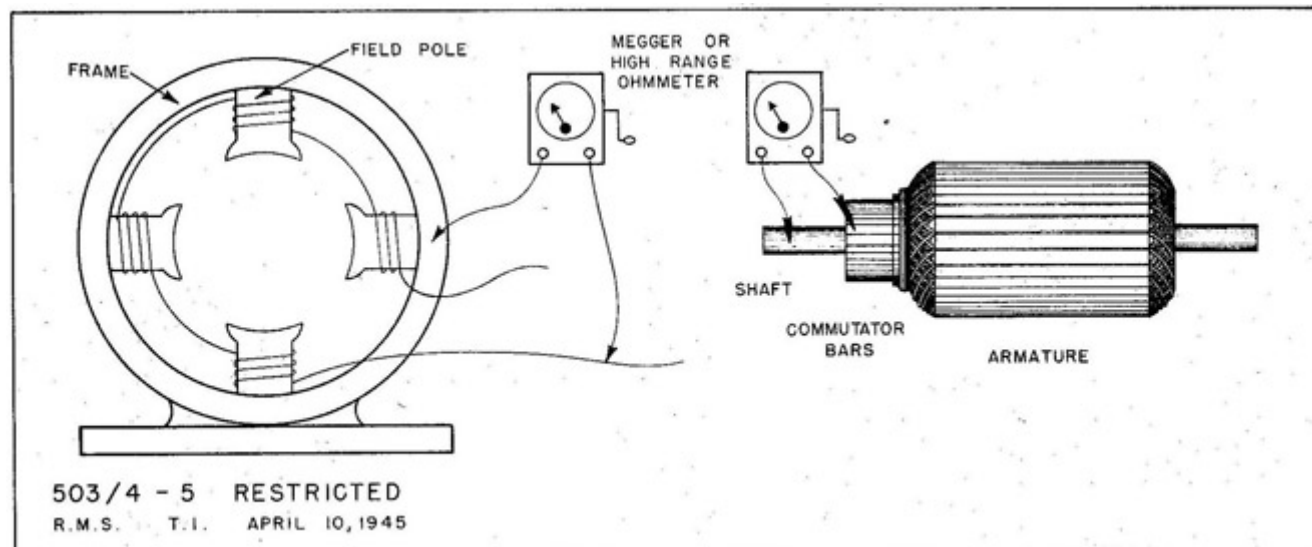

Fig. 5 Testing for leaky insulation and grounded coils.
- (b) Make insulation tests as shown in Fig. 5, using a megger or a high range Ohmmeter.